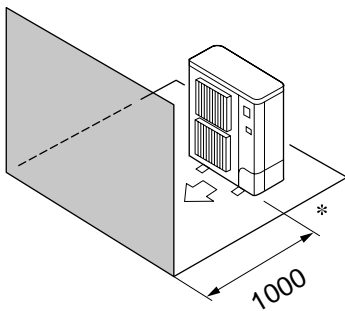

Fig. 2-7
- Obstacles at front only (Fig. 2-7)